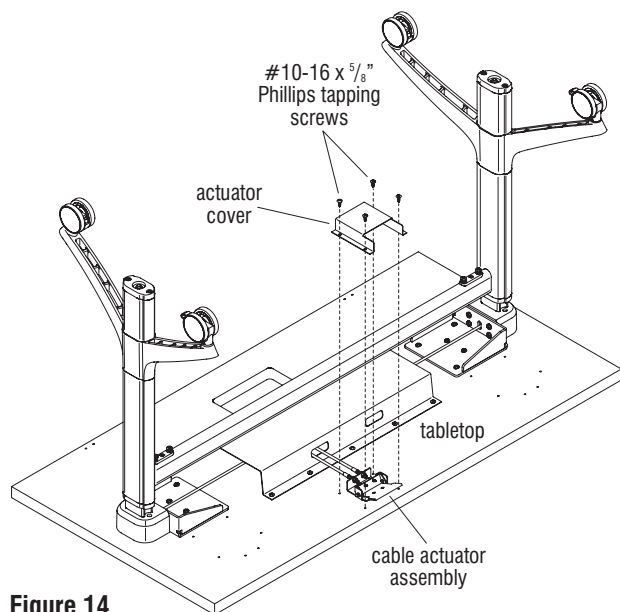

Figure 14
32. Begin "Test 2" adjustments by moving under the table or carefully placing the table upside down on a soft, protective surface to gain access to the height actuator handle and cables (Figure 14). At the side of the table which could be pressed down with the table raised, locate the appropriate cable housing and M8 nuts to lessen that cable tension. Using the 7/16" wrench, loosen the bottom M8 nut one-quarter to one-half of a turn, or until tension releases. Then, twist the top M8 nut down finger tight and use the 7/16" wrench to turn the nut one-quarter to one-half turn more to tighten it (Detail W). Carefully turn the table to the upright position, press the height actuator handle to raise the table, and test the side that was adjusted to see if it lowers with pressure. If it does not lower, no more adjustment is required, but if it does lower, repeat step 32.
33. Move under the table or carefully place the table upside down on a soft, protective surface (Figure 14).
34. At the underside of the tabletop, position the actuator cover above the cable actuator assembly. Secure the cover to the tabletop using four #10-16 x 5/8" Phillips tapping screws (Figure 14).